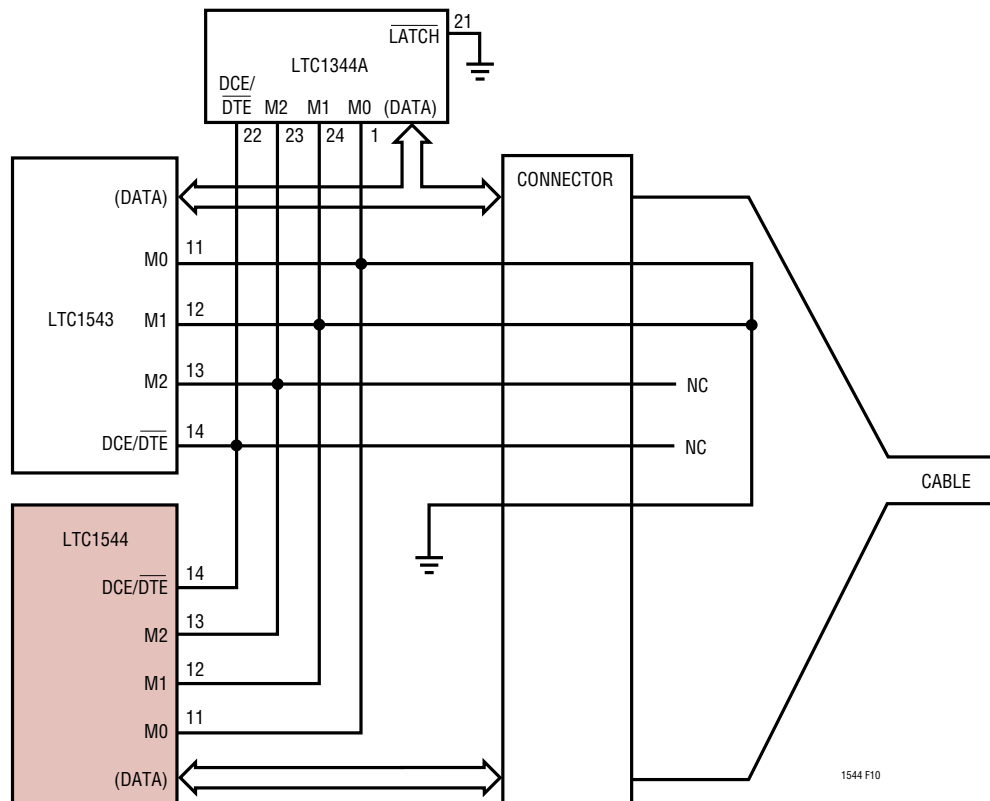

Figure 10: Single Port DCE V.35 Mode Selection in the Cable
nected (1) or wired to ground (0) in the cable as shown in Figure 10.